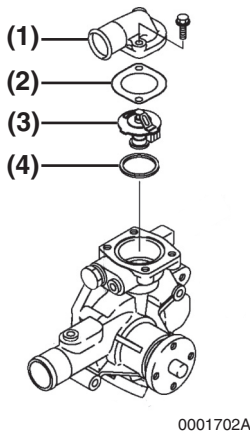

Figure 8-12
4. Remove the thermostat cover (**Figure 8-12, (1)**). Discard the gasket (**Figure 8-12, (2)**).
5. Remove the thermostat (**Figure 8-12, (3)**). Discard the gasket (**Figure 8-12, (4)**).